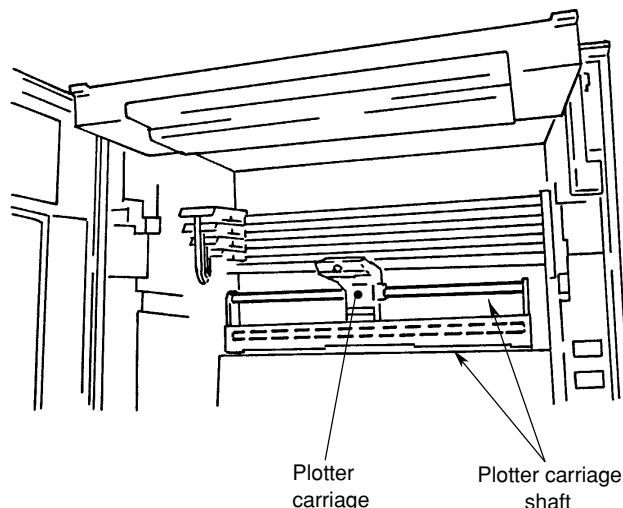

Figure 11.7 Plotter Carriage Shafts
- 2 Two shafts (upside and downside of the plotter carriage) are visible (see figure 11.7). Wipe off dirt with a soft cloth without fibers. If the dirt is persistent, you may use ethyl alcohol.